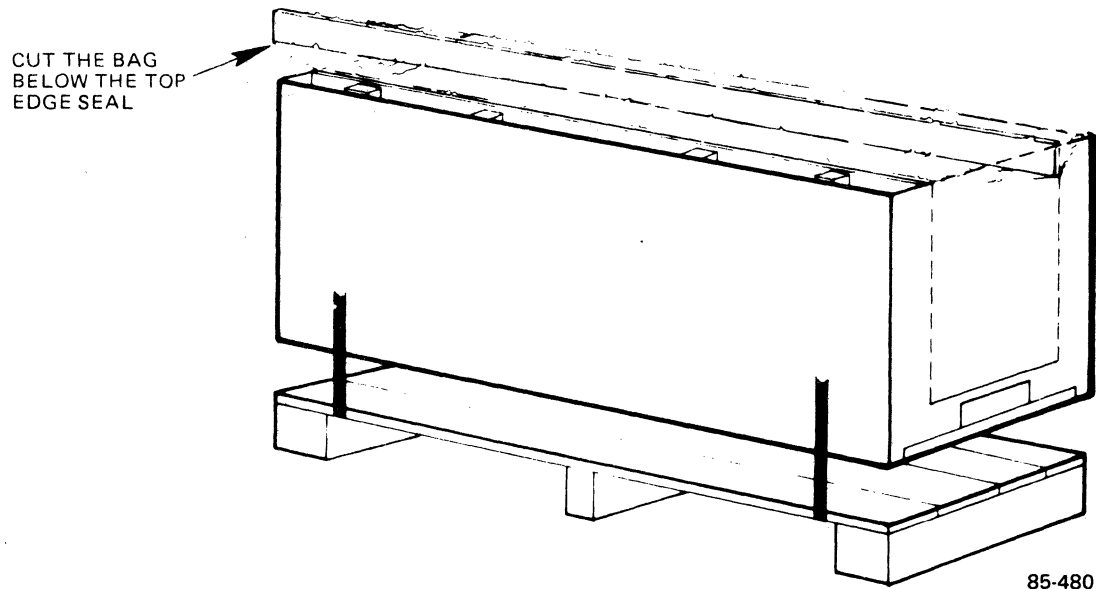

Figure 2-2. Cutting the Metalized Bag
5. Carefully cut open the sealed metalized bag immediately below the top edge seal (see Figure 2-2).